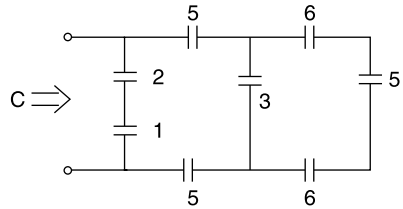
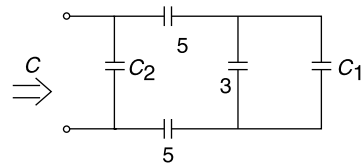

Fig. 14.2
Fig. 14.3
14.8 Determine the equivalent capacitance of the network shown in Fig. 14.2. All values shown in the figure are in μF .
The network shown in Fig. 14.2 is reduced to a simpler network as shown in Fig. 14.3.